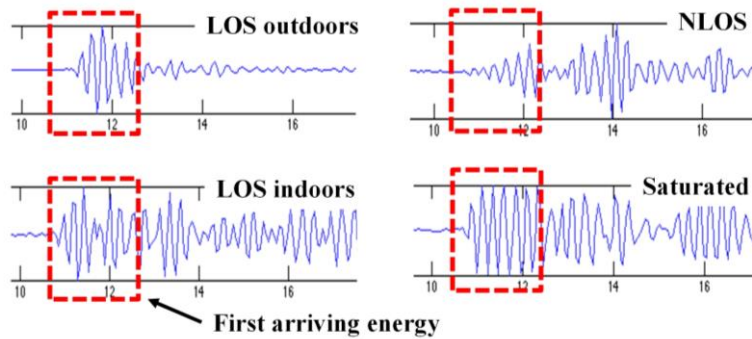

Fig. 2-2: Received waveforms captured at 61 ps intervals (2x Nyquist) in a variety of environments
- By analyzing the shape of the received waveform it is possible to determine importation characteristics of the channel such as (a) whether or not the signal is clear or non-line-of-sight (NLOS), (b) determine if the signal is in compression, and (c) whether or not the signal is corrupted by multipath or Fresnel effects. This is illustrated in **Figure 2-2**.